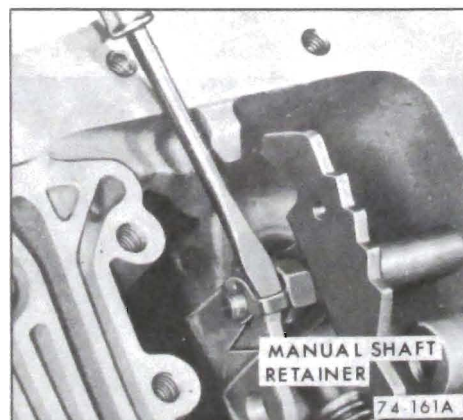

Figure 74-161
2. Remove manual shaft retainer. See Figure 74-161.